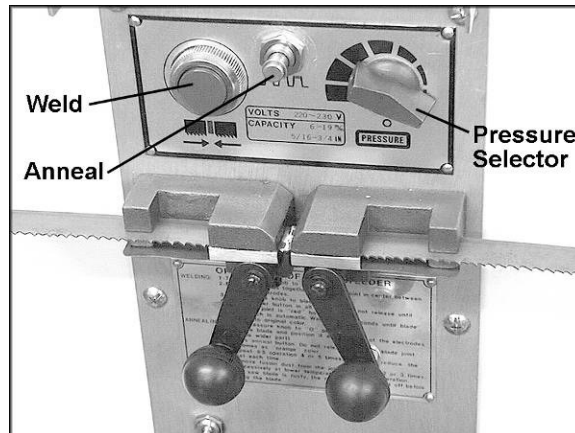

Figure 18
6. Insert one end of the blade in the left clamp (Figure 18). Position the back edge of the blade against the back edge of the left clamp. Then position the end of the blade midway between the left and right clamps. Tighten the left clamp.
9. Press and hold the weld button (Figure 18). When the weld button is pushed, the left clamp moves to the right to apply pressure to the blade ends. At the same time, sparks will come from the blade ends as they are being welded. Do not release weld button until the blade joint is “red hot.”
16. Quickly press and release (jog) the anneal button (Figure 18). Repeat the press-and-release process until you see a slightly red glow from the weld area.